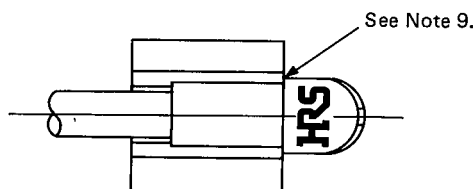

Fig. 6
- (1) Insert the mating section of the connector into the hole of the crimp connection jig, as shown in Figure 6.